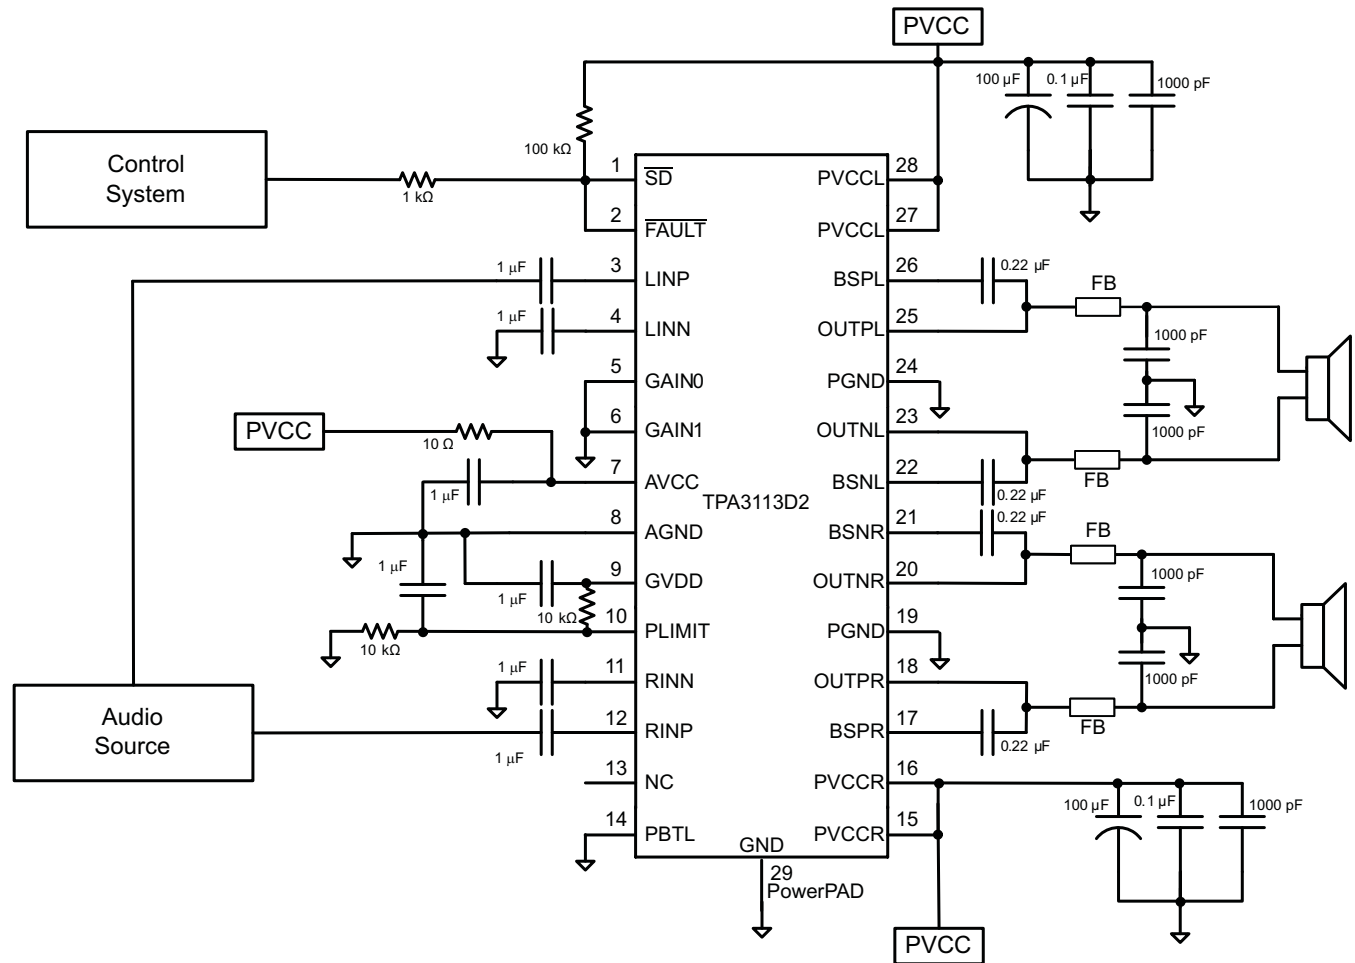
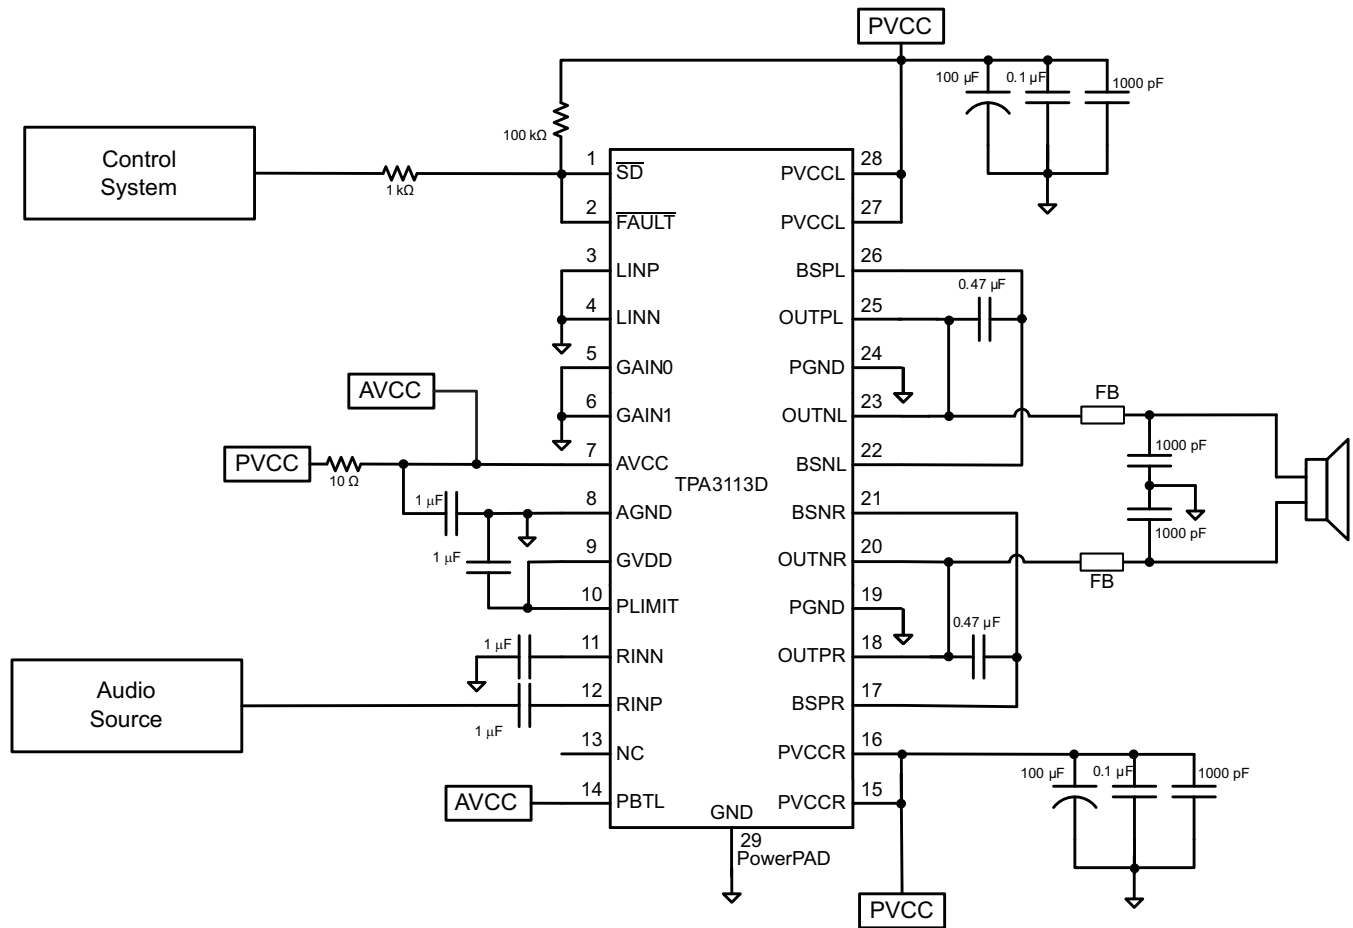

Figure 33. Stereo Class-D Amplifier with BTL Output and Single-Ended Inputs with Power Limiting
Figure 34. Stereo Class-D Amplifier with PBTL Output and Single-Ended Input
- Added the Pin out illustration. 4 - Changed the Stereo Class-D Amplifier with BTL Output and Single-Ended Input illustration Figure 33 - Corrected the pin names. 18 - Changed the Stereo Class-D Amplifier with PBTL Output and Single-Ended Input Figure 34 - Corrected the pin names. 19